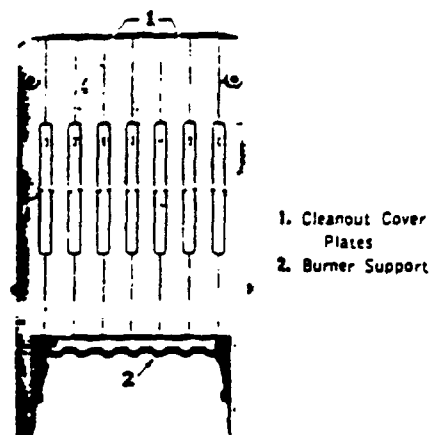

FIG. 5—Section Assemblage
1. Screw short threaded end of brass studs into tapped bosses in recesses between sections and attach cleanout cover plates to front of boiler. See that asbestos gasket is on each plate and makes gas seal when drawn up tight. See Fig. 5.
2. Place burner supports in pockets provided on end sections, and in bolted-on supports of intermediate sections on 13 to 41 section boilers. See Fig. 5.